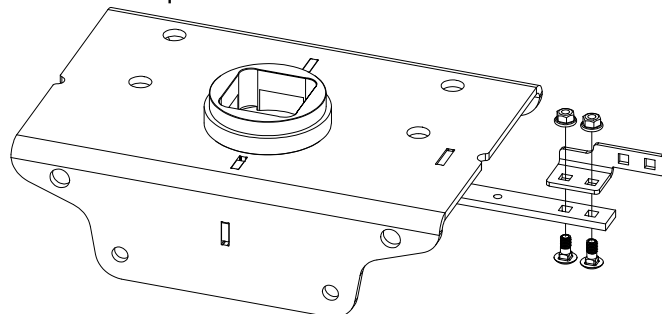

Figure D1: Center section with latch pin pulled out.
1. **Install latch pin handle bracket.** Locate the latch pin handle bracket, two 5/16" x 3/4" carriage bolts, and two 5/16" flange nuts. Pull the handle out all the way until it stops then slide it forward to keep it in place. Install the latch pin handle bracket in the orientation shown in Figure D1. Attach the bracket using the 5/16" hardware. Align the bracket with the latch pin. The carriage bolts must be installed from the bottom up as shown. Torque the nuts to 30 ft. lbs.